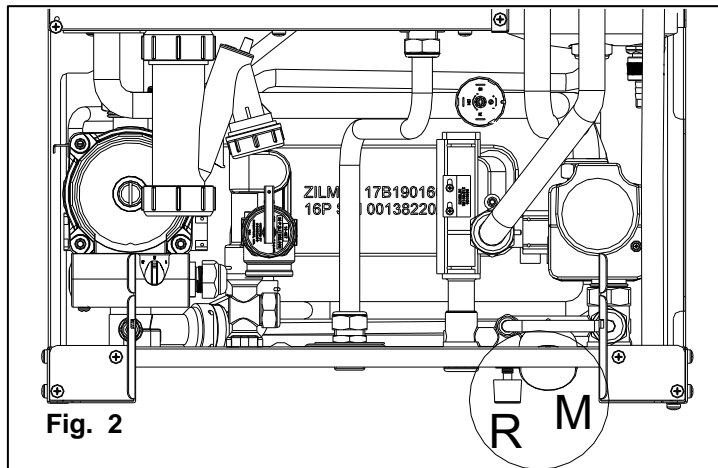

Fig. 2
The water pressure in the central heating circuit must be checked during the entire period of operation of the boiler. In this respect, the reading on the pressure gauge **M** (fig. 2), located on the lower part of the boiler, must not be less than 1 bar (14.5 psi).
To bring the system back up to pressure, open the external filling tap **R** (fig. 2) and use the pressure gauge **M** (fig. 2) to check that the system pressure reaches 1 bar (14.5 psi) and that the code H2O lights up.
- Check the water pressure in the central heating circuit. The reading on the pressure gauge **M** (see fig. 2), located on the lower part of the boiler, must not be less than 1 bar .